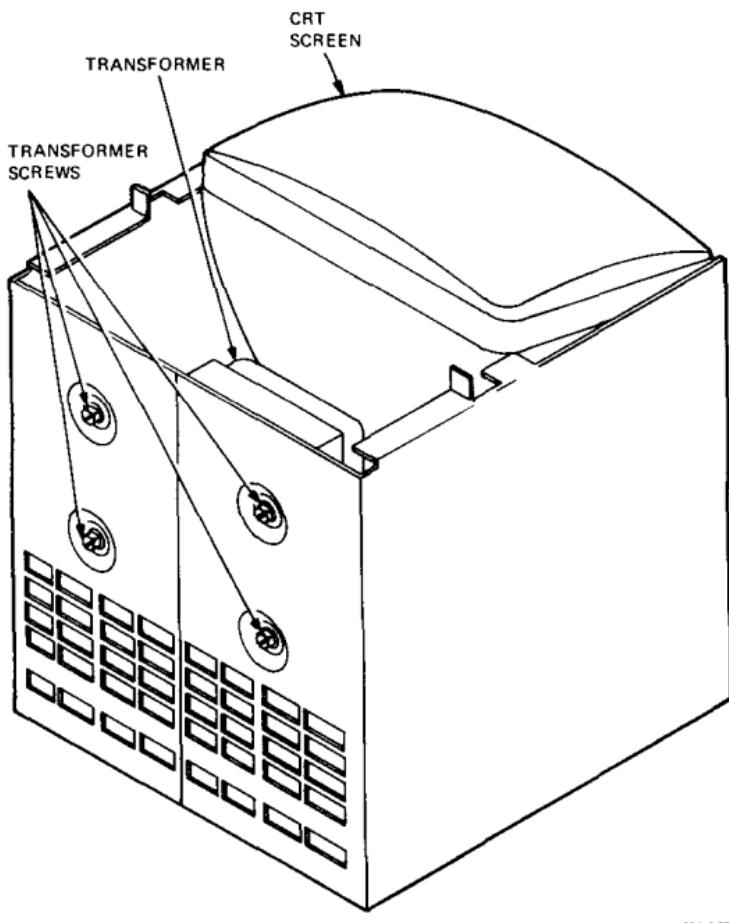

Figure 2-13 Power Supply Transformer Removal
3. Turn the chassis on its back end so the CRT screen is facing up (Figure 2-13). Remove the lower two screws from the transformer mounting bracket. Remove the upper two screws.